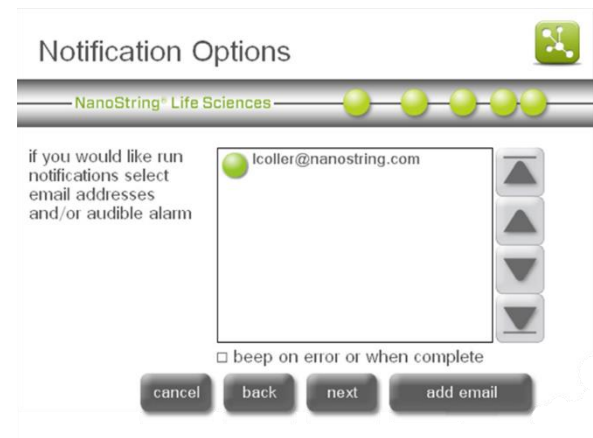

Figure 139: The 'Notification Options' screen.
5. The 'Notification Options' screen will appear (**Figure 139**). Select an email address to receive an email alert when the protocol is complete, and set the system to produce an audio alert if desired. Press **next**.